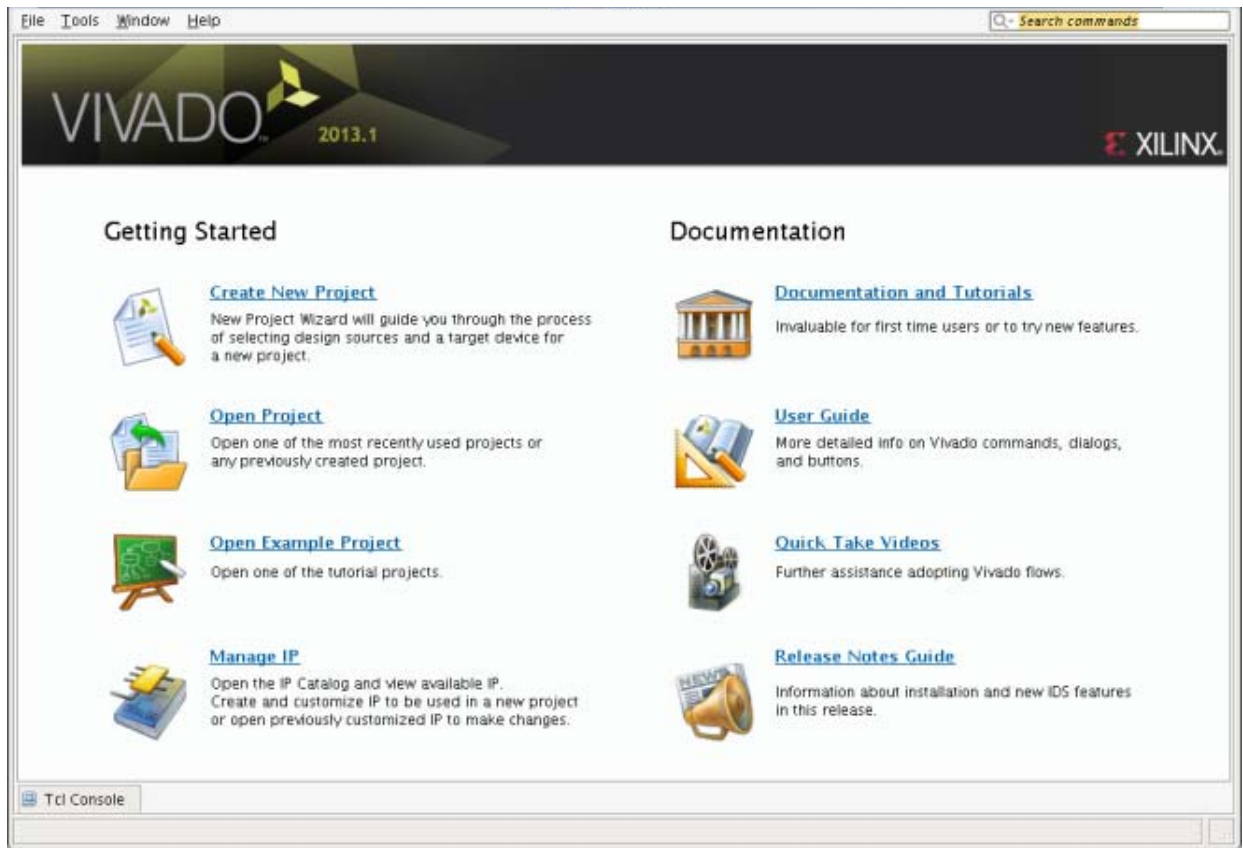

Figure 2: Getting Started Dialog Box
5. In the Vivado Integrated Development Environment (IDE), select **Getting Started > Open Project** (Figure 2).
4. Create a new project by selecting **Getting Started > Create New Project**, refer to Figure 2, page 4.